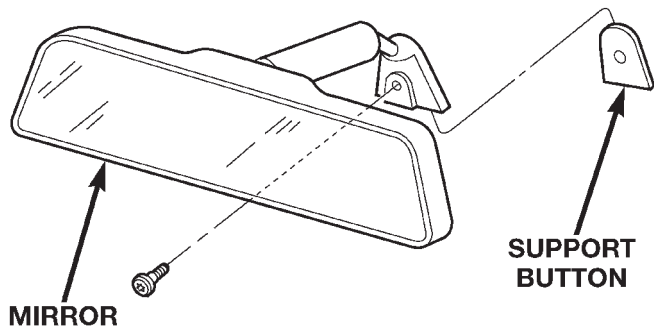

Fig. 81 Rearview Mirror
- (1) Loosen the mirror base setscrew (Fig. 81).
- (2) Slide the mirror base upward and off the bracket.